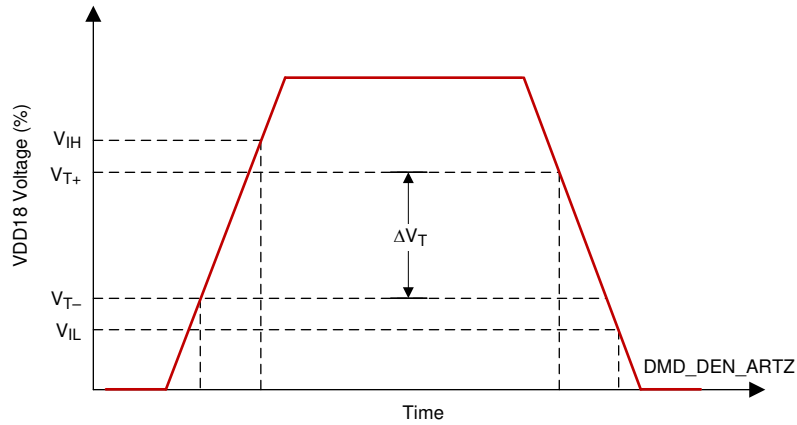

Figure 6-9. LVC MOS Input Hysteresis
(1) See Figure 6-9 and Figure 6-10 LVC MOS Rise, Fall Time SLeW Rate Figures. Specification is for DMD_DEN_ARSTZ pin (LVC MOS).